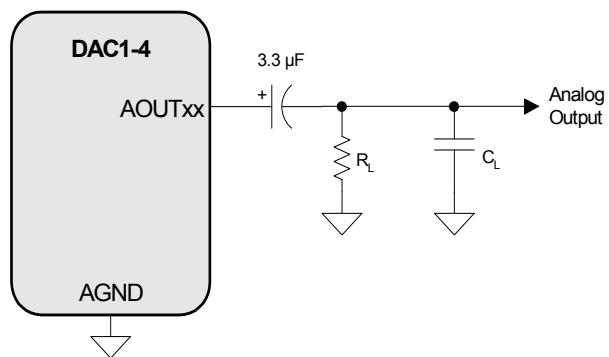

Figure 3. Output Test Circuit for Maximum Load
13. Guaranteed by design. See Figure 3. R_L and C_L reflect the recommended minimum resistance and maximum capacitance required for the internal op-amp's stability and signal integrity. In this circuit topology, C_L will effectively move the dominant pole of the two-pole amp in the output stage. Increasing this value beyond the recommended 100 pF can cause the internal op-amp to become unstable. See "External Filters" on page 48 for a recommended output filter.